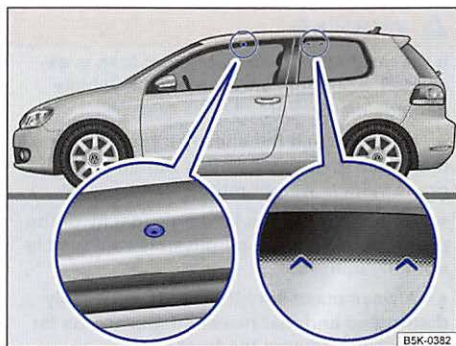
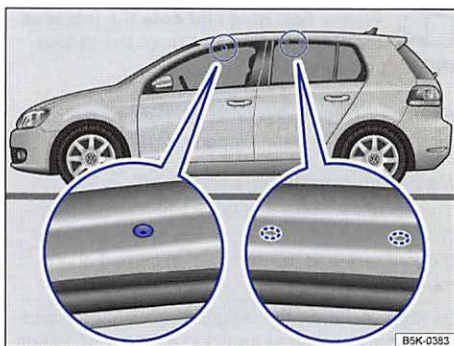

Fig. 89 Mounting points for the base carrier and roof rack on 2-door vehicles.
Fig. 90 Mounting points for the base carrier and roof rack on 4-door vehicles.
The front mounting holes are on the underside of the roof frame. They are sealed with plastic screws $\Rightarrow$ **fig. 89** (magnified view on left). The holes are only visible when the door is open. The rear markings for the base carrier are above the rear side windows $\Rightarrow$ **fig. 89** (magnified view on right).
The front mounting holes are on the underside of the roof frame. They are sealed with plastic screws $\Rightarrow$ **fig. 90** (magnified view on left). The rear markings for the base carrier are on the underside of the roof frame $\Rightarrow$ **fig. 90** (magnified view on right).
- Mount the roof rack base carrier only at the markings shown in the illustration $\Rightarrow$ **fig. 89** or $\Rightarrow$ **fig. 90**.